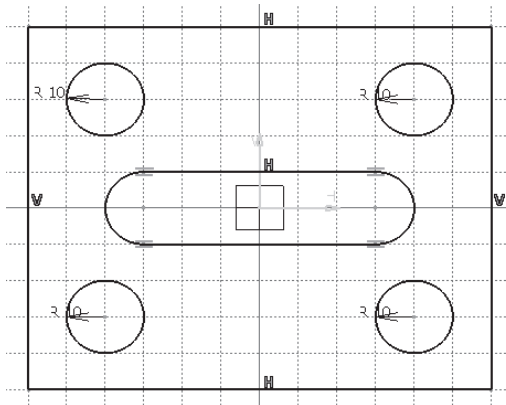

Figure 1-48 The final sketch
15. Similarly, draw the other two circles. The coordinates of the center point of the other two circles are -40, 30 and -40, -30, respectively. The final sketch, with the display of constraints turned on, is shown in Figure 1-48.